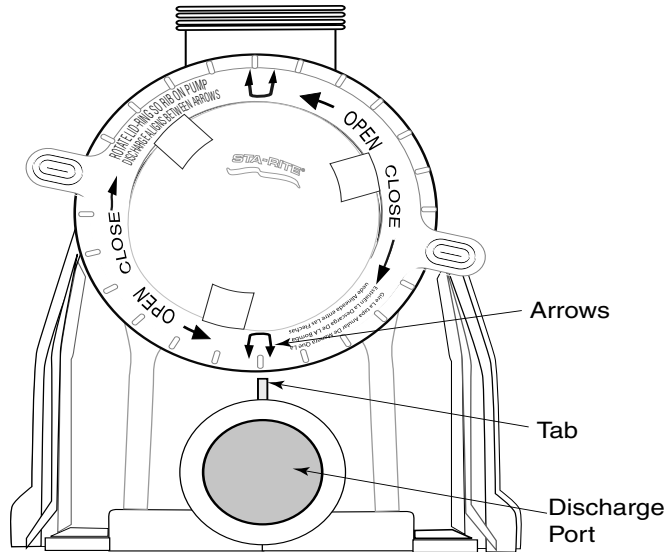

Figure 1 – Strainer basket cover alignment.
- Limit test to 24 hours. After test, visually check system to be sure it is ready for operation. Remove trap lid and retighten hand tight only, **see Figure 1**.